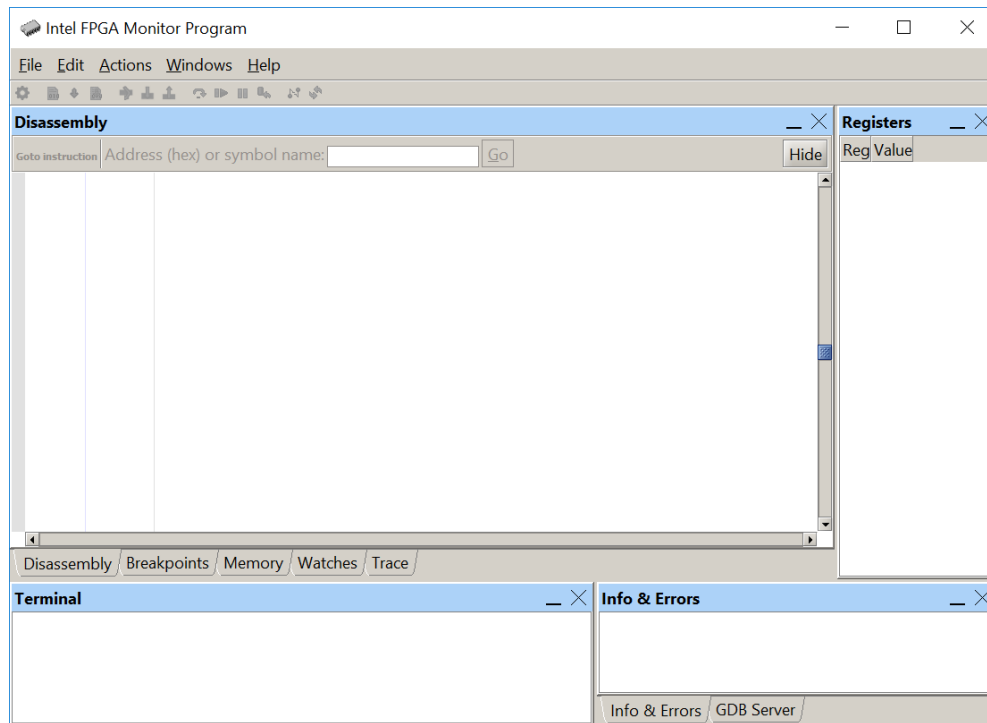

Figure 12: The *Monitor Program* window.
2. Open the *Monitor Program* software, which leads to the window in Figure 12.